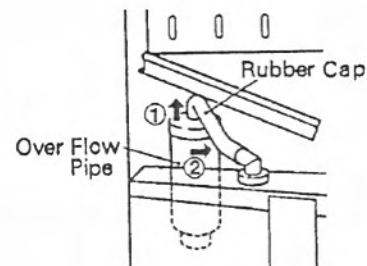

Fig. 4
- 3) Drain the Water Tank by removing the Insulation Panel and the Rubber Cap covering the Overflow Pipe in the Water Tank. Remove the Overflow Pipe by turning it counterclockwise. See Fig. 4.
- 5) Drain the Water Tank by removing the Rubber Cap covering the Overflow Pipe in the Water Tank. Remove the Overflow Pipe by turning it counterclockwise. See Fig. 4.